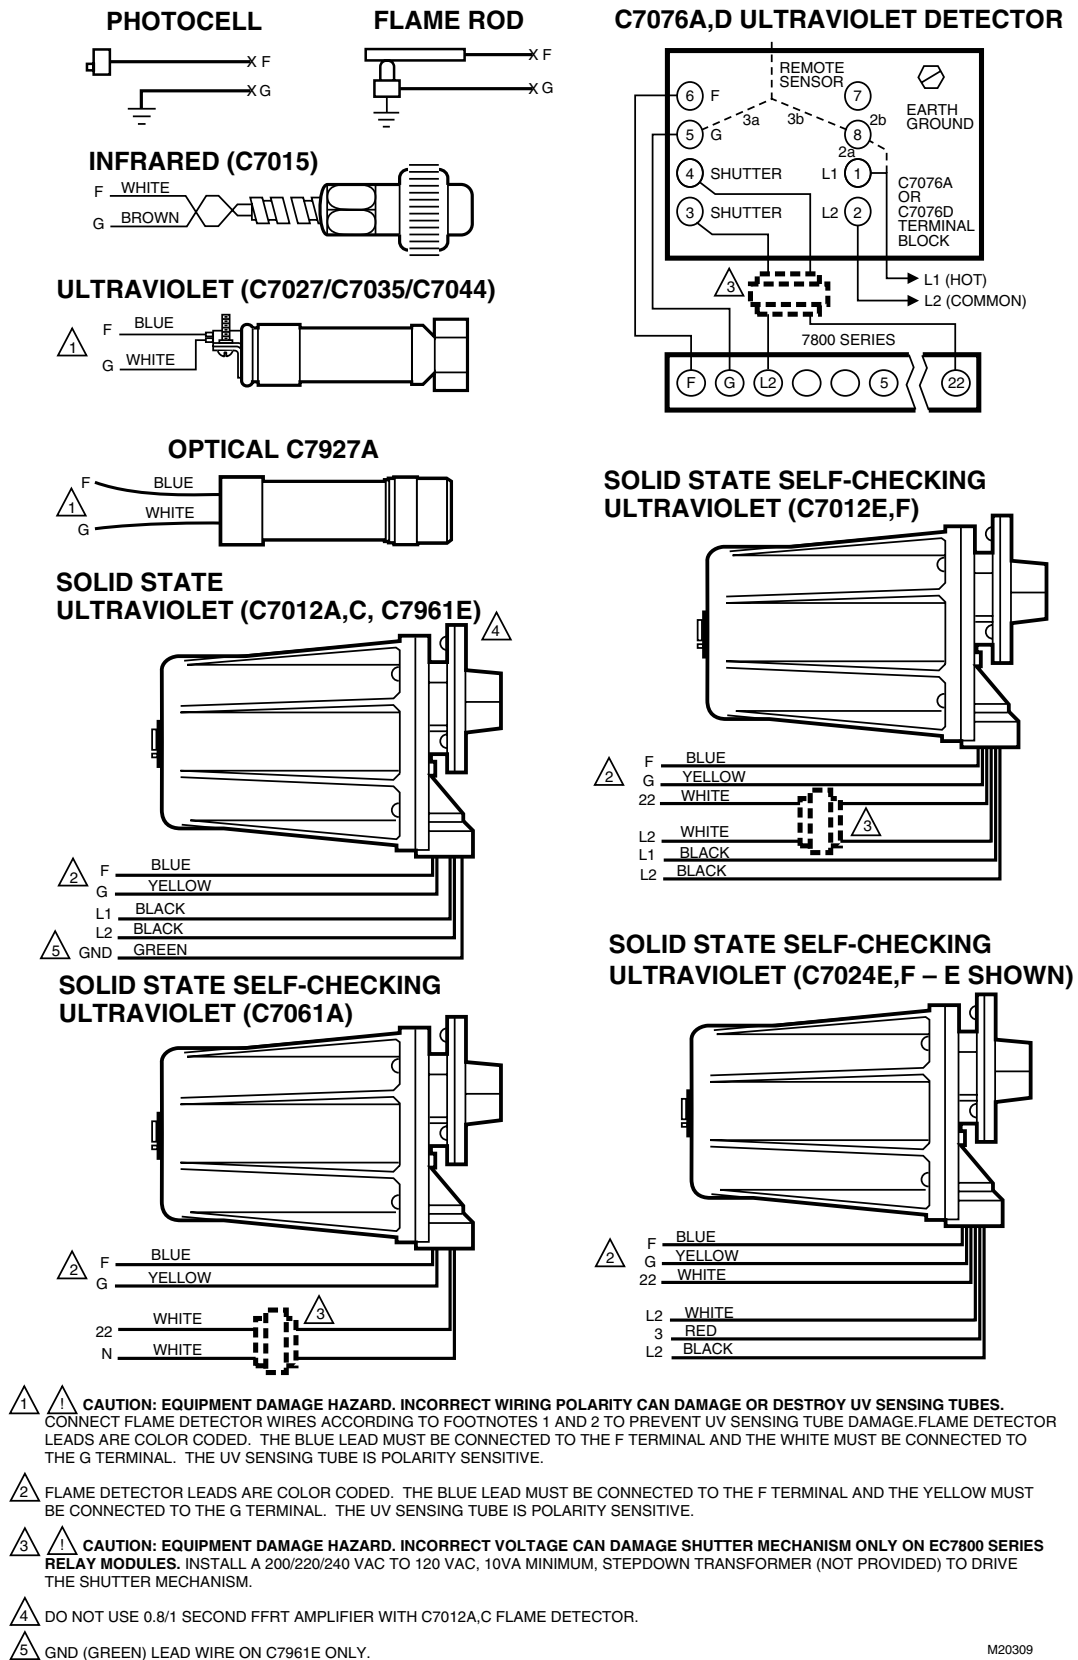

Fig. 3. Flame detector wiring.
2. Refer to Fig. 3 for proper flame detector wiring.
- Flame detector wiring is shown in Fig. 3.